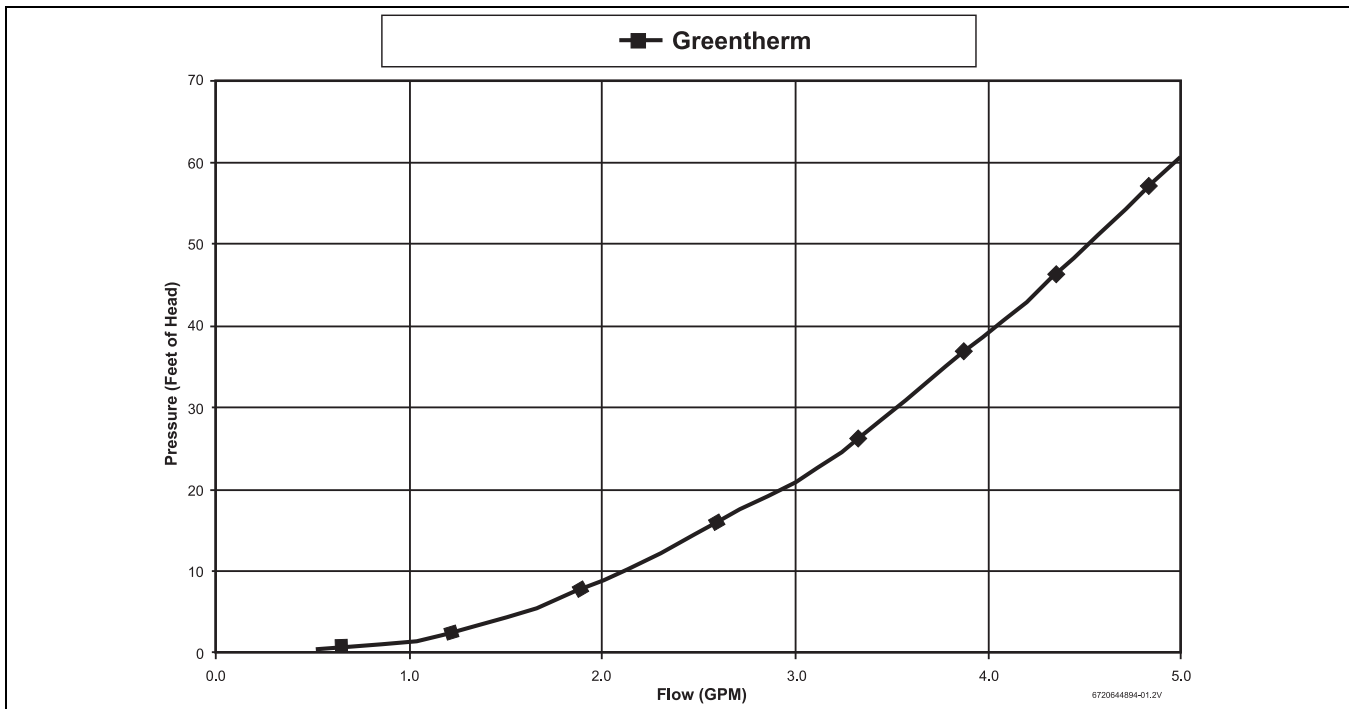

Fig. 45 Pressure drop curve
**i** For Pump sizing please refer to the pressure drop curves, fig. 45. Also remember to account for system piping pressure loss. A minimum of 1.7 GPM is recommended to provide adequate flow through the water heater when determining the size of the primary pump.